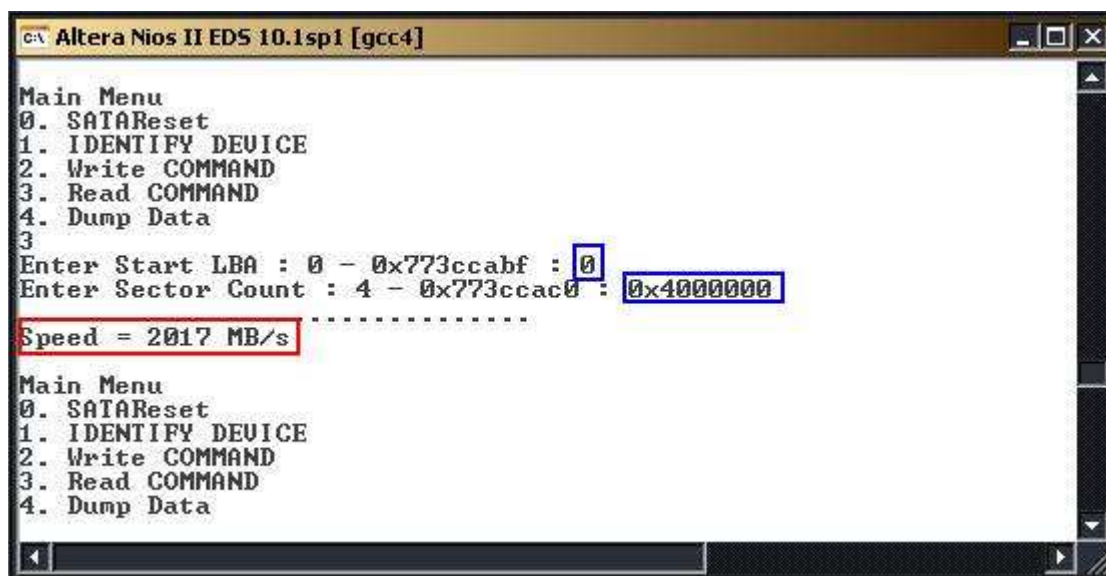

Figure 10 READ COMMAND without Verify
- Sector Count: this value, divided by 4, is used to be total transfer size in sector unit (512 byte) to read HDD/SSD. If this value is more than 262144 which is read buffer size value, transfer speed will be displayed as output without verify, as shown in Figure 10. From hardware limitation, sector size of each channel must be aligned to 2 sectors.